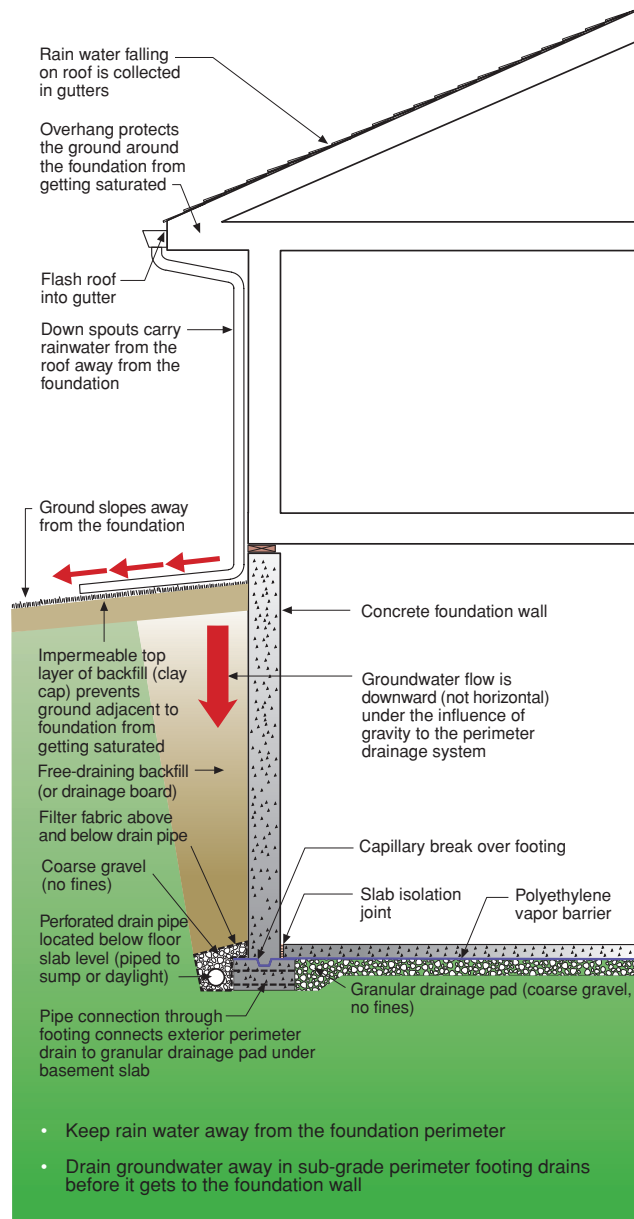
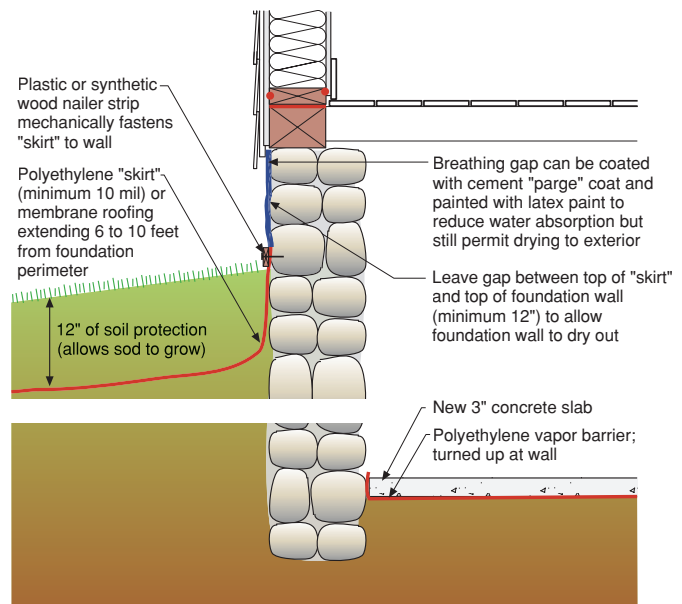
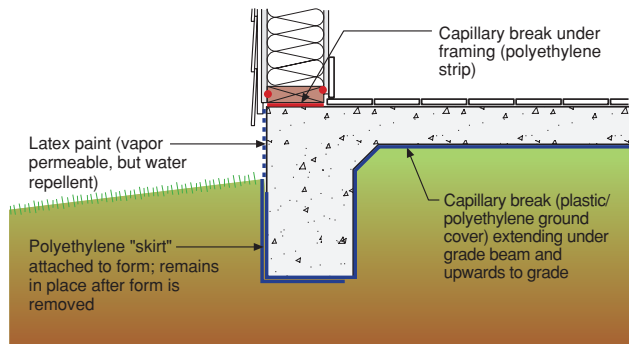
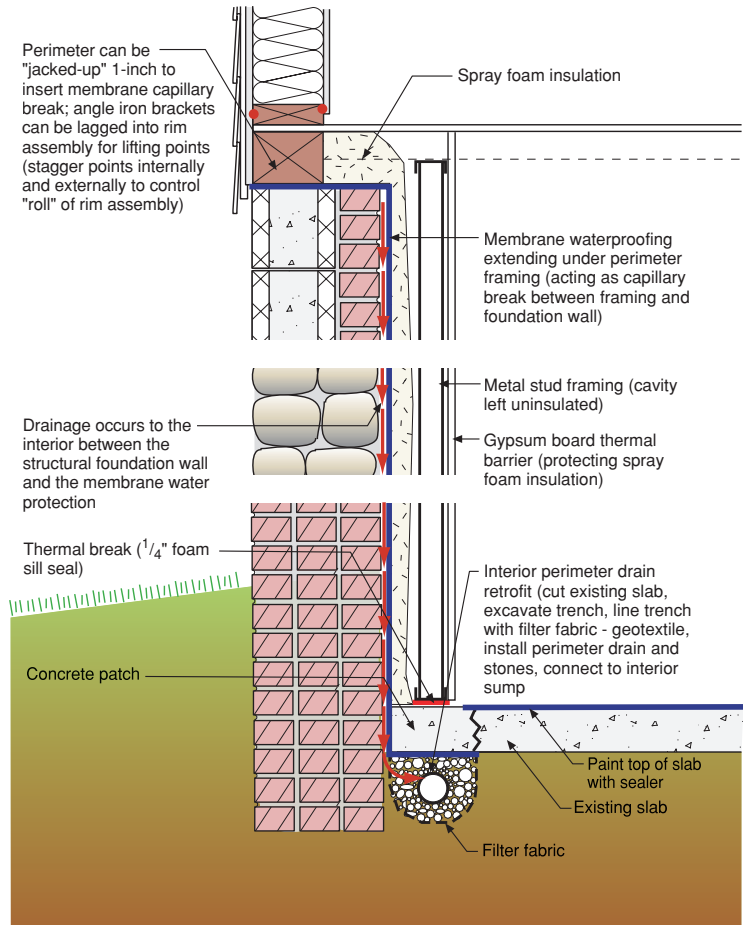

Figure 8a
Figure 9
Figure 13
Figure 14
The fundamental principles of groundwater control are to keep rainwater away from the foundation wall perimeter and to drain groundwater with sub-grade perimeter drains before it gets to the foundation wall. This applies to slabs, crawlspaces and basements (see **Figures 8a, 8b** and **8c**) regardless of whether they are newly constructed or undergoing rehabilitation (see **Figure 9**).
Interior perimeter drainage can also be used in new construction — particularly where impermeable rigid insulation is used on the interior of the foundation wall. This allows rigid insulation of greater than 1-inch to be used. And, if foil-faced rigid insulation is used — with the appropriate flame-spread and smoke-developed rating — it can be left exposed (i.e. interior gypsum board does not have to be installed as thermal barrier for fire protection. See **Figure 14**).
However, in renovations, exterior perimeter drainage may not be present or may not be practical or possible. In such cases, interior perimeter drainage can be used and connected to an interior sump pump. Interior sump pits/crocks must be fitted with airtight gasketed covers to prevent soil gas entry. This interior perimeter drainage may be combined with an interior drainage layer. Where an interior drainage layer is used, it must be gas tight and vapor tight relative to the interior (see **Figure 13**). Another technique is to use an exterior impermeable material to minimize rain and groundwater entering below grade spaces (see **Figure 9**).
- Thicker foam can be used if drainage is provided between the foam and the foundation wall (see Figure 14)
in any climate as it prevents drying to the interior. The exception to this interior vapor barrier in basements rule is where drainage is provided between the interior vapor barrier and the assembly (i.e. exterior to the vapor barrier – see **Figure 13 — Interior Drainage: Renovations** and **Figure 14 — Interior Drainage: New construction**).
Impermeable interior finishes should be avoided, such as vinyl wall coverings or oil (alkyd) based paints. In a similar vein, vinyl floor coverings should be avoided on basement floor slabs or on slab-on-grade construction unless a low water-to-cement ratio concrete is used (less than 0.45) installed directly over a polyethylene vapor barrier – and only where slab edges are protected from capillary water (see **Figure 13 – Capillary Control For Monolithic Slab**).